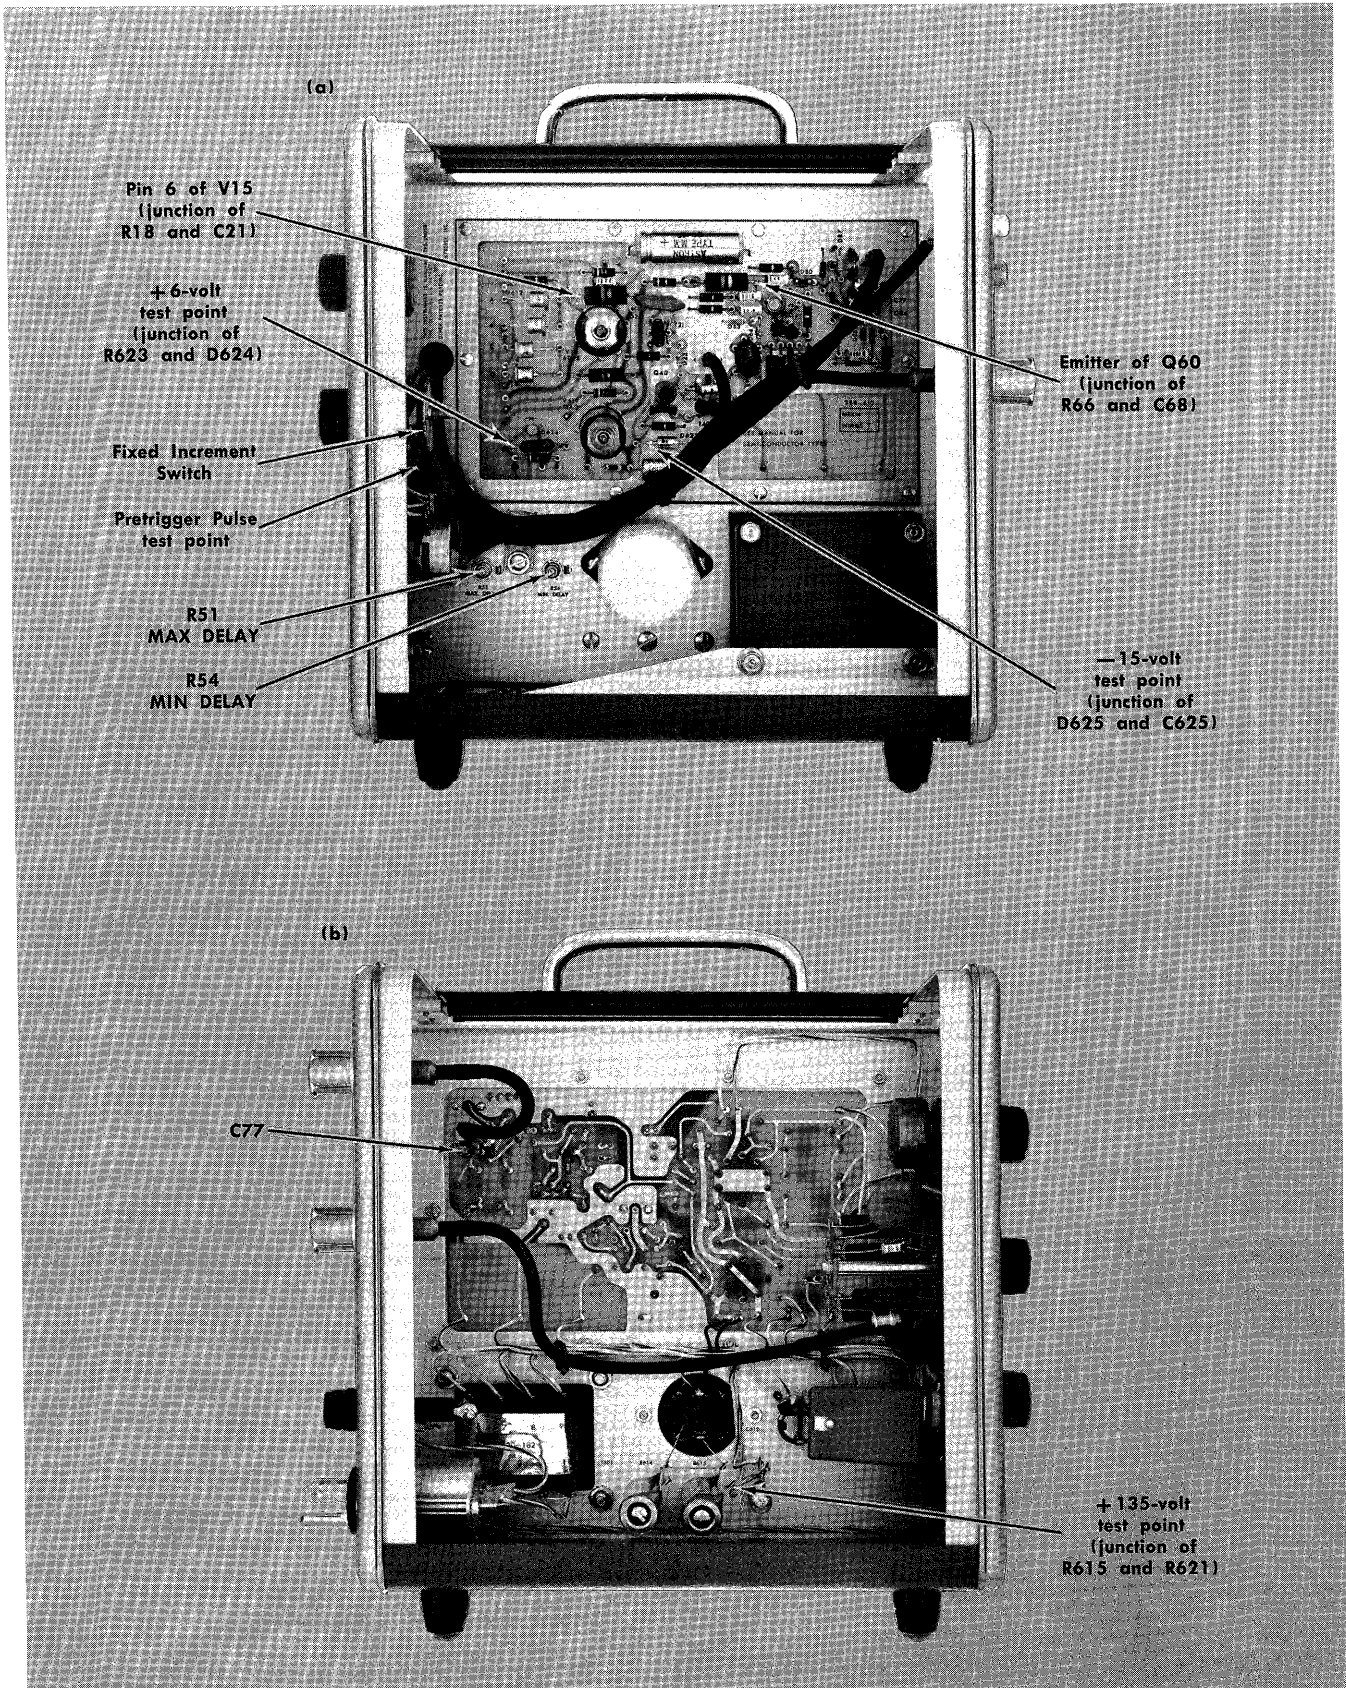

Fig. 5-2. Test Points and adjustments in the Type 111: (a) right side; (b) left side.
Refer to Table 5-1 for output voltage and ripple tolerances during the following checks. Test points are shown in Fig. 5-2.
- d. Connect the 10X test probe tip to pin 6 of V15 (see Fig. 5-2).
b. Connect the probe tip of the conventional test oscilloscope to the emitter of Q60 (see Fig. 5-2).